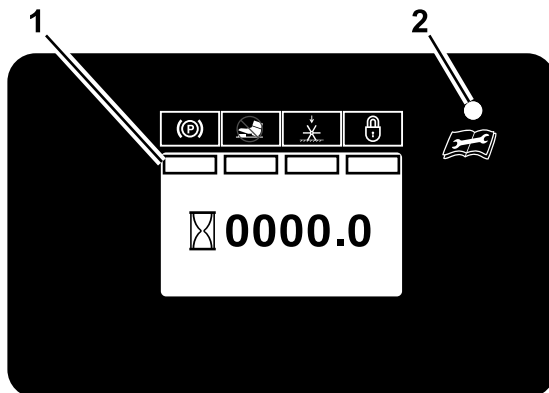
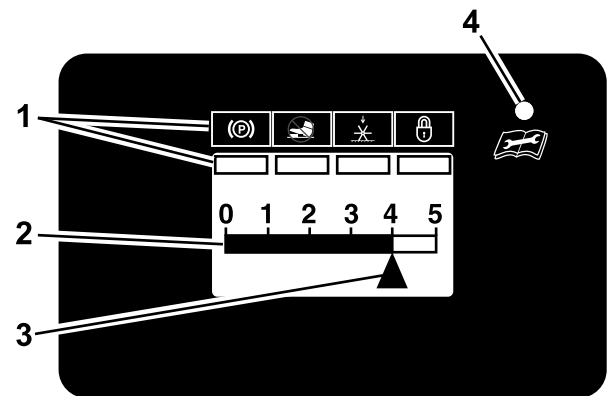

Figure 20
Figure 21
After the start-up screens display, the default screen (Figure 20) appears.
A higher number on the status bar (Figure 21) increases the length of the aeration plug and a lower number decreases it.
The LED is multi-colored light (Figure 20 and Figure 21) used to indicate the system status:
- To lock the setting, Turn the ignition key from the OFF to the ON position 5 times. The LED status light illuminates in the tine engagement display (reference Figure 21).